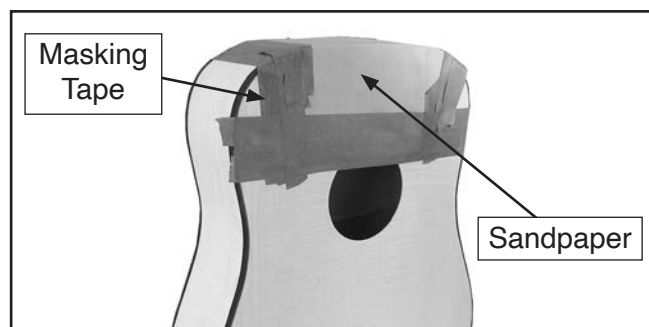

Figure 4. Body masked for neck sanding.
1. Attach sandpaper with masking or painter's tape at location shown in **Figure 4**.